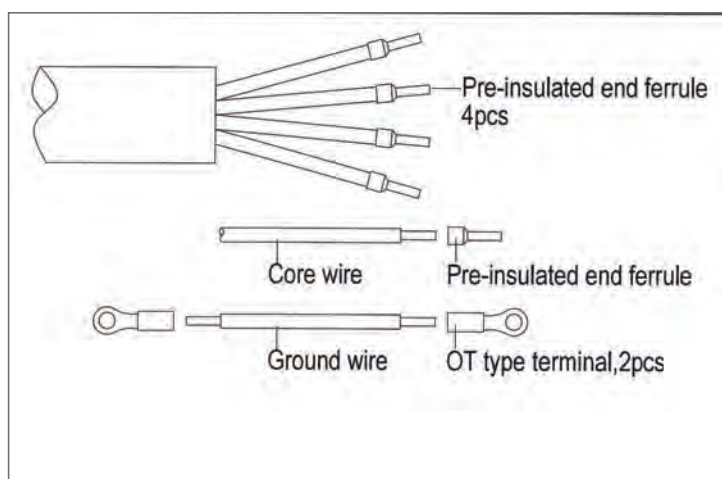

Figure 3-29 AC output and ground cable set up
(3) Connect the AC (L1, L2, L3, N) cables to the terminal block and use the OT type terminal to connect the ground cable to the external grounding point at the bottom of the wiring box. (See the 3rd graph in Figure 3-26). Set up the cables referring to Figure 3-29.